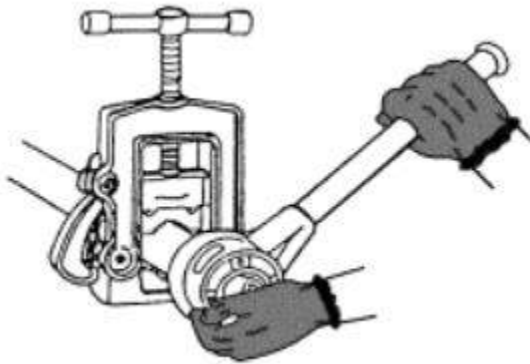

Figure 2.22 Steps of making thread
Step 2. Slide the diestock over the end of the pipe with the guide on the inside. Push the die against the pipe with one hand (as shown in Figure 2.22).